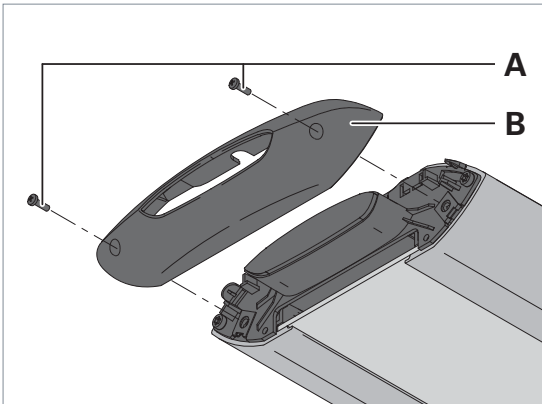

Fig. 20: Opening the luminaire.
- ▶ Unscrew the screws **A** from one side part of the luminaire, see Fig. 20.